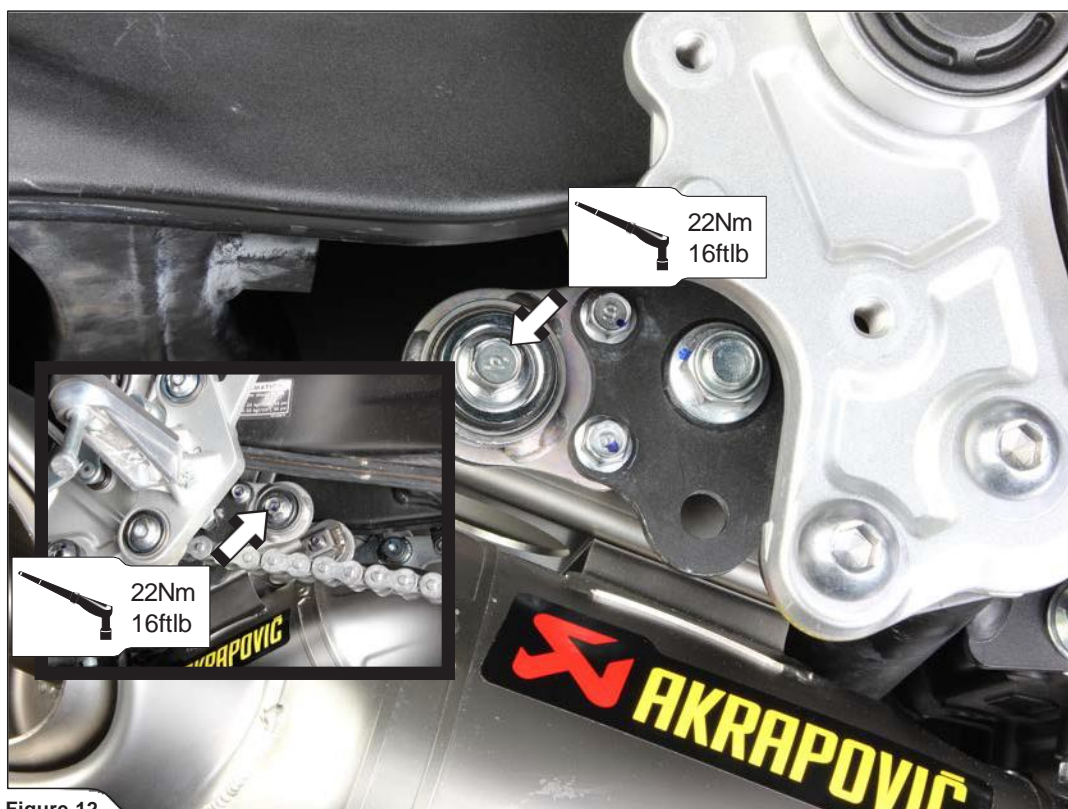

Figure 12
5. Align the muffler in respect to the motorcycle and tighten the muffler's bracket onto the frame, using stock bolts and washers (Figure 12).